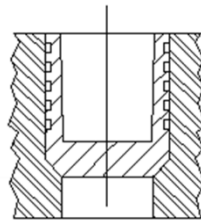

FIGURE 2B - INSERT PLUG INTO
3. INSERT PLUG INTO HOLE A UNTIL IT IS FIRMLY SEATED ON THE SHOULDER AT THE BOTTOM OF THE REAMED HOLE (SEE FIGURE 2B). AN AXIAL LOAD 50 TO 100 POUNDS OR LIGHT AXIAL BLOWS APPLIED TO A PUNCH WHICH SEATS FIRMLY ON THE BOTTOM OF THE TAPERED HOLE IN THE PLUG CAN BE USED TO SEAT THE PLUG.